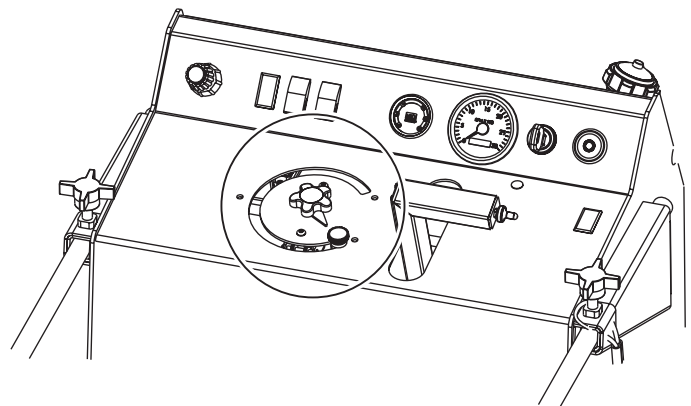

Figure 28. Depth Indicator
- Set the Depth Indicator dial to zero. (The Depth Indicator now accurately indicates how deep the blade is cutting.) (Figure 28)